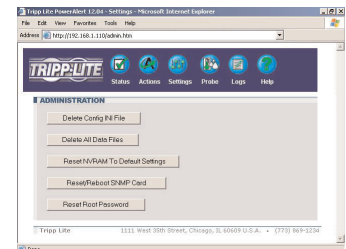

Figure 2: PowerAlert Administration Screen
- After connecting the sensor, use a Web browser to connect to <http://x.x.x.x/admin.htm> (replace x.x.x.x with the card's IP address). Log in to PowerAlert as the administrator. Click the button labeled *Reset/Reboot SNMP Card* (Figure 2). After the card reboots, a new button labeled *Probe* will appear in the top navigation area of PowerAlert. Click this button to access monitoring and control options for the EnviroSense sensor.